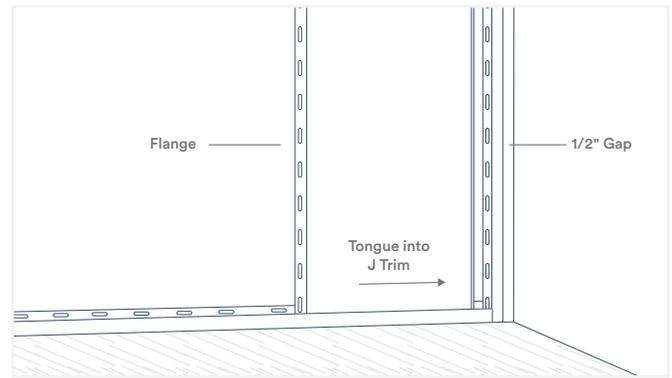

Fig. 13
4. Cut the length of the first panel for the first course. Starting in the corner where you cut the J Trim 1/2" short, place the panel with the tongue side in the corner trim and the groove (screw flange) side facing away from the wall (Fig. 13). Ensure the panel is parallel to the outside wall before fastening. Leave a 1/8" gap between the tongue side of the panel and the adjoining trim. Fasten a minimum of once every 24" with the recommended screws